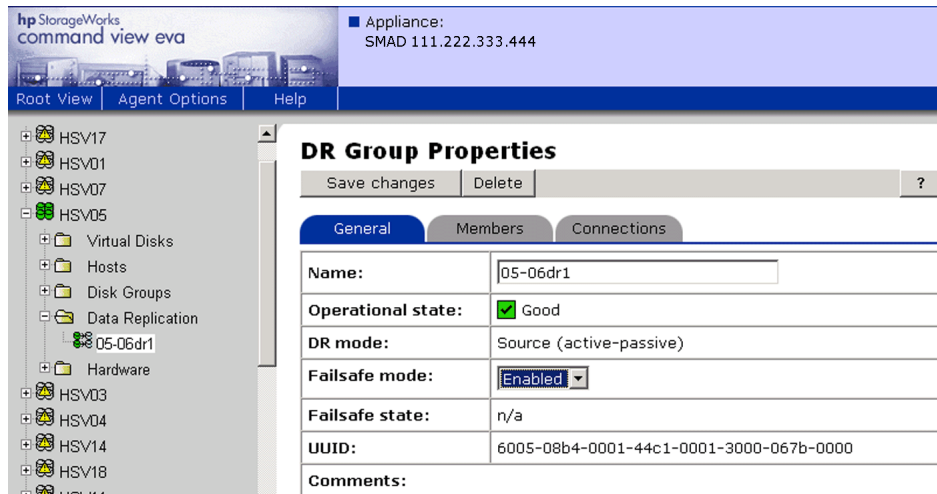

Figure 60: Setting a DR group to failsafe mode
- b. Select the desired DR group. A DR Group Properties pane is displayed (Figure 60).